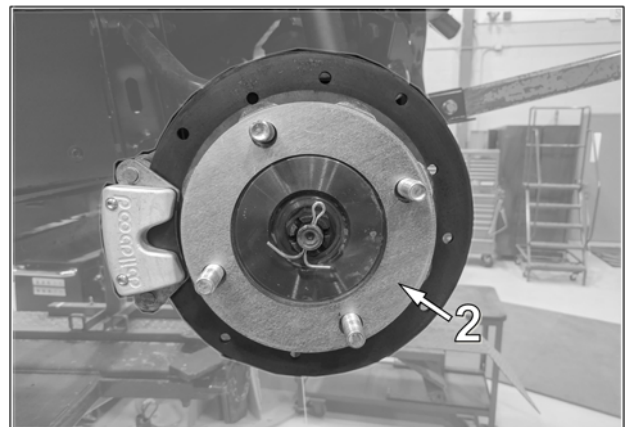

Fig. 10
CAUTION: If your vehicle is equipped with rear wheel spacers (2), be sure to leave them in place before installing the track systems. See Fig. 10